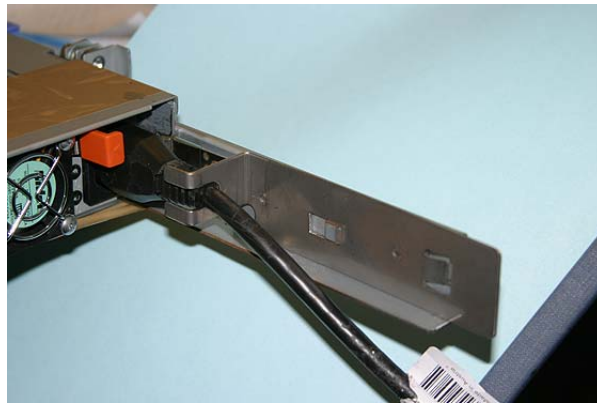

Figure 47. The SAN Volume Controller 2145-8F4 with cable retention bracket attached
3. Position the cable retention bracket against the support rail and attach the bracket onto the slot in the rear of the rail. Figure 47 provides a view of the cable retention bracket that is attached to the SAN Volume Controller 2145-8F4.